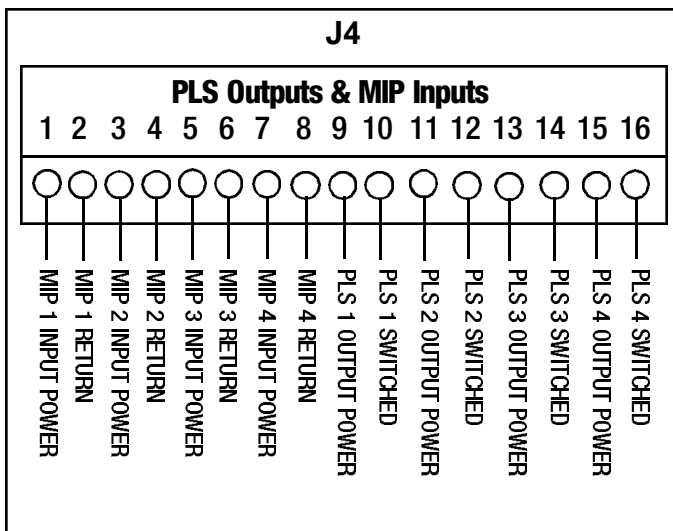

Figure 3.16 - Terminal Block #J4
**3-11 TERMINAL BLOCK J4 (Optional PLS Outputs and MIP Inputs)** (See Figure 3.16)